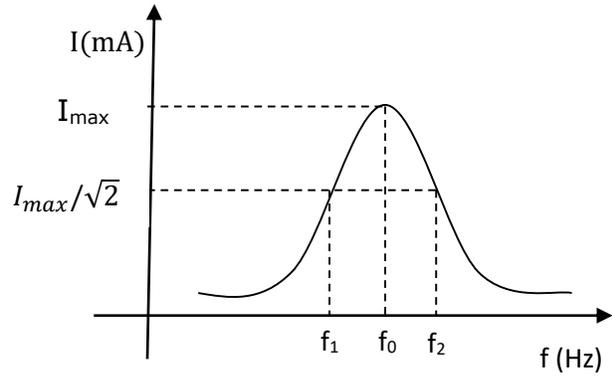

Figure 5.2
3. A graph of current versus frequency is plotted. The curve obtained is as shown in Fig. 5.2.